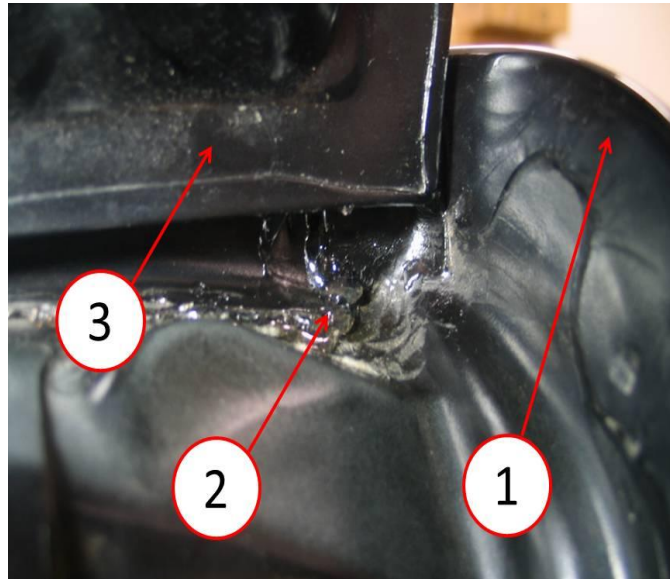

Fig. 11 Roof Seam
5. At the rear roof panel apply Kent Hi-Tech Seam Sealer P10200 or equivalent around the patch shown in (Fig. 11) on the right and left side.